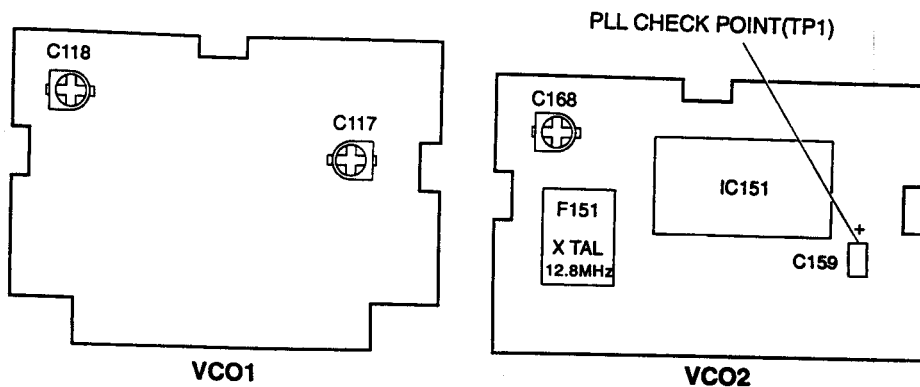

Fig. 5-2 VCO PCB (1/2)
- 2) Connect a digital voltmeter or high impedance tester (positive lead to TP1, negative to ground) and adjust C117 and C118 on the VCO PCB as shown in Table 5-1. (See Fig. 5-2.)